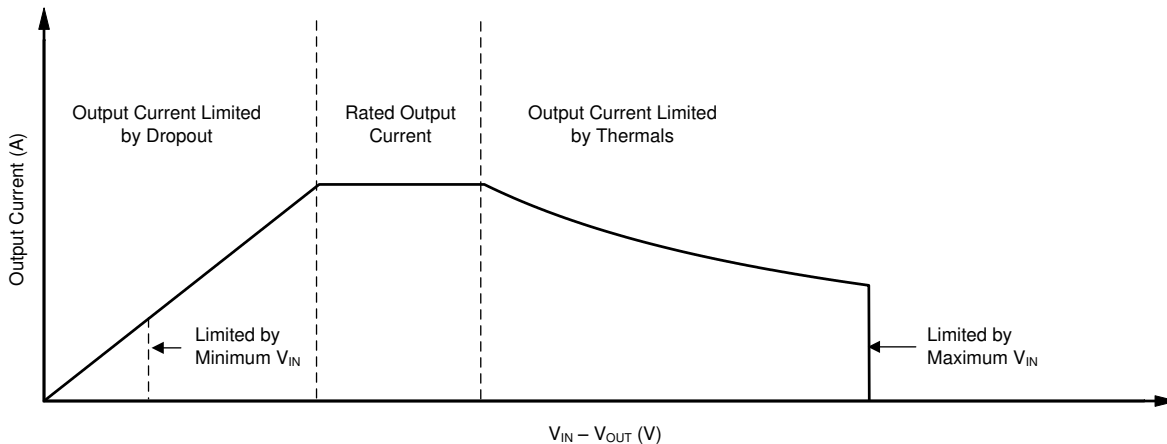

Figure 8-3. Continuous Operation Diagram With Description of Regions
The operational area of an LDO is limited by the dropout voltage, output current, junction temperature, and input voltage. The recommended area for continuous operation for a linear regulator is shown in Figure 8-3 and can be separated into the following regions:
- Figure 8-3 provides the shape of the slope. The slope is nonlinear because the maximum rated junction temperature of the LDO is controlled by the power dissipation across the LDO; thus, when $V_{IN} - V_{OUT}$ increases the output current must decrease.